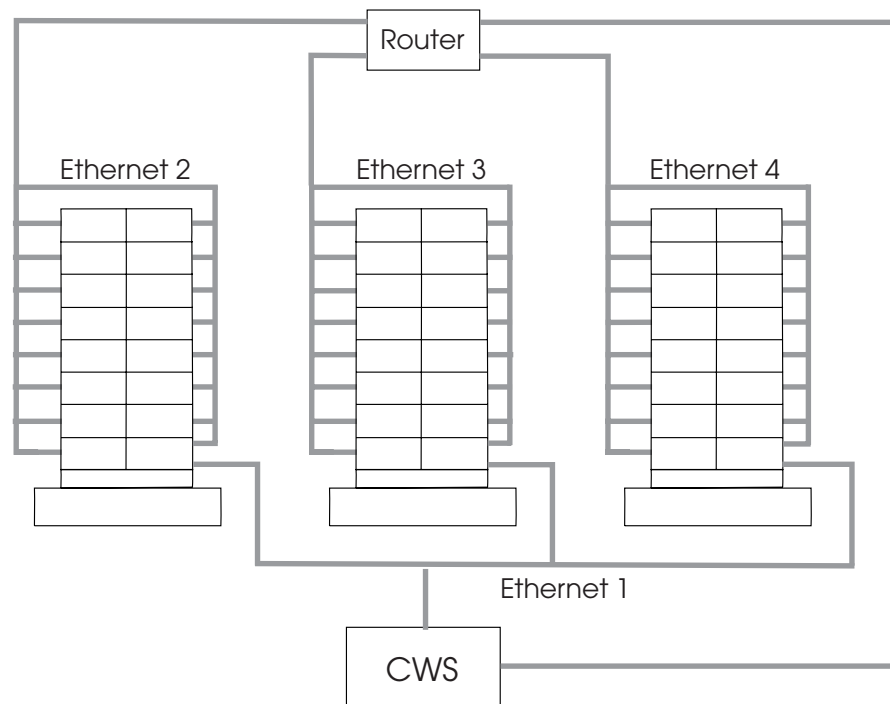

Figure 8. Method 3 Ethernet Topology for Multi-Frame SP System
3. A third method adds an external router to the topology of the previous approach. This router is made part of each of the frame Ethernets, so that traffic to the outside need not go through the control workstation. You can do this only if the control workstation can also be attached externally, providing another route between nodes and the control workstation. Figure 8 shows this Ethernet topology for such a multi-frame system.